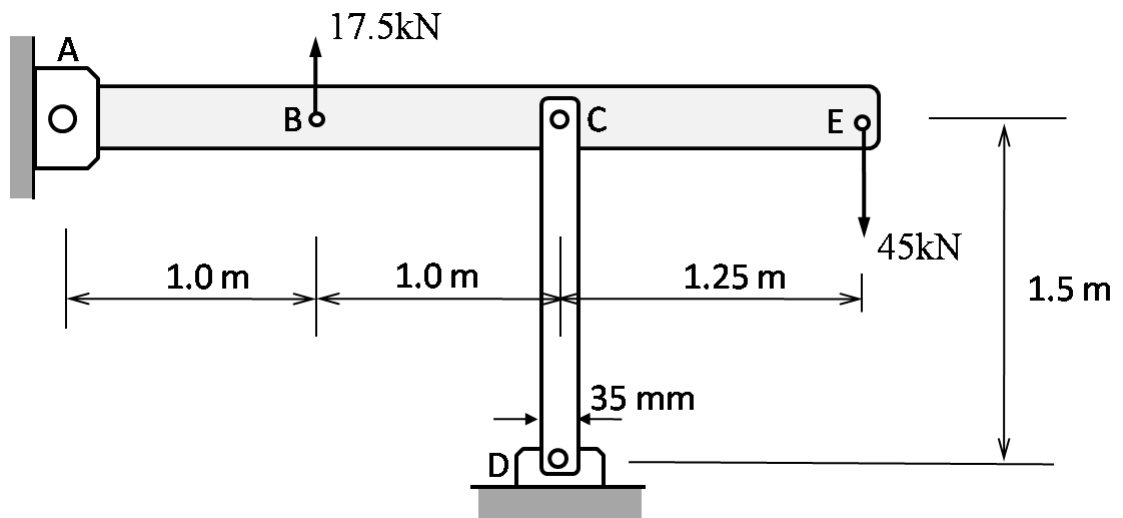

Figure 4 / Rajah 4
- (b). **Figure 4** shows a rigid horizontal beam ABCE which is supported by a pair of rectangular bar CD at C. Points A and D are pinned supports. The cross-sectional size of each of the rectangular bar is $35 \text{ mm} \times 12.5 \text{ mm}$. Modulus of elasticity of the bar is $E=125 \text{ GPa}$. Vertical loads of 17.5 kN and 45 kN act at points B and E, respectively.